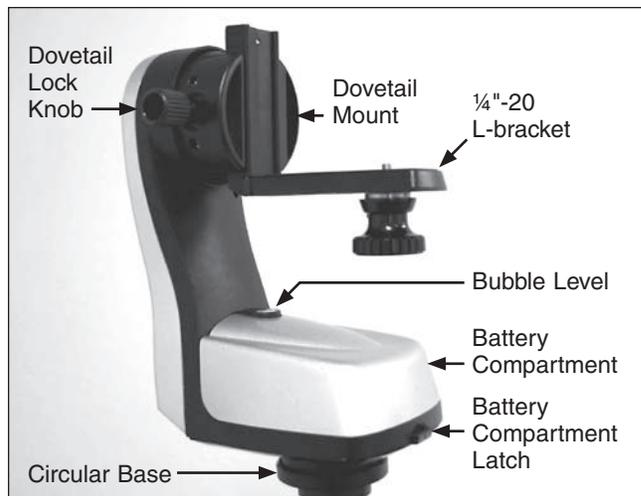

Figure 3: The TeleTrack AZ-G GoTo Mount Fork Arm
For maximum portability, the TeleTrack AZ-G mount features a battery compartment that holds eight (8) AA alkaline batteries (user supplied). To open the compartment, press down on the black battery compartment latch (see Figure 3) and gently lift the cover off. You will find two separate battery holders that hold 4 AA batteries each. For easiest installation, detach each battery holder and insert your AA batteries until each holder is full. Be sure to orient the batteries as indicated on the battery holder. Reattach the filled battery holders securely using the snap connectors and close the battery compartment by pressing its cover down gently until its latch clicks. Power the TeleTrack AZ-G on by pressing the red on/off switch to the “on” position.
Insert the dovetail plate of the L-bracket into the dovetail mount, making sure that it is oriented as shown in Figure 3. Then tighten the dovetail lock knob until snug.